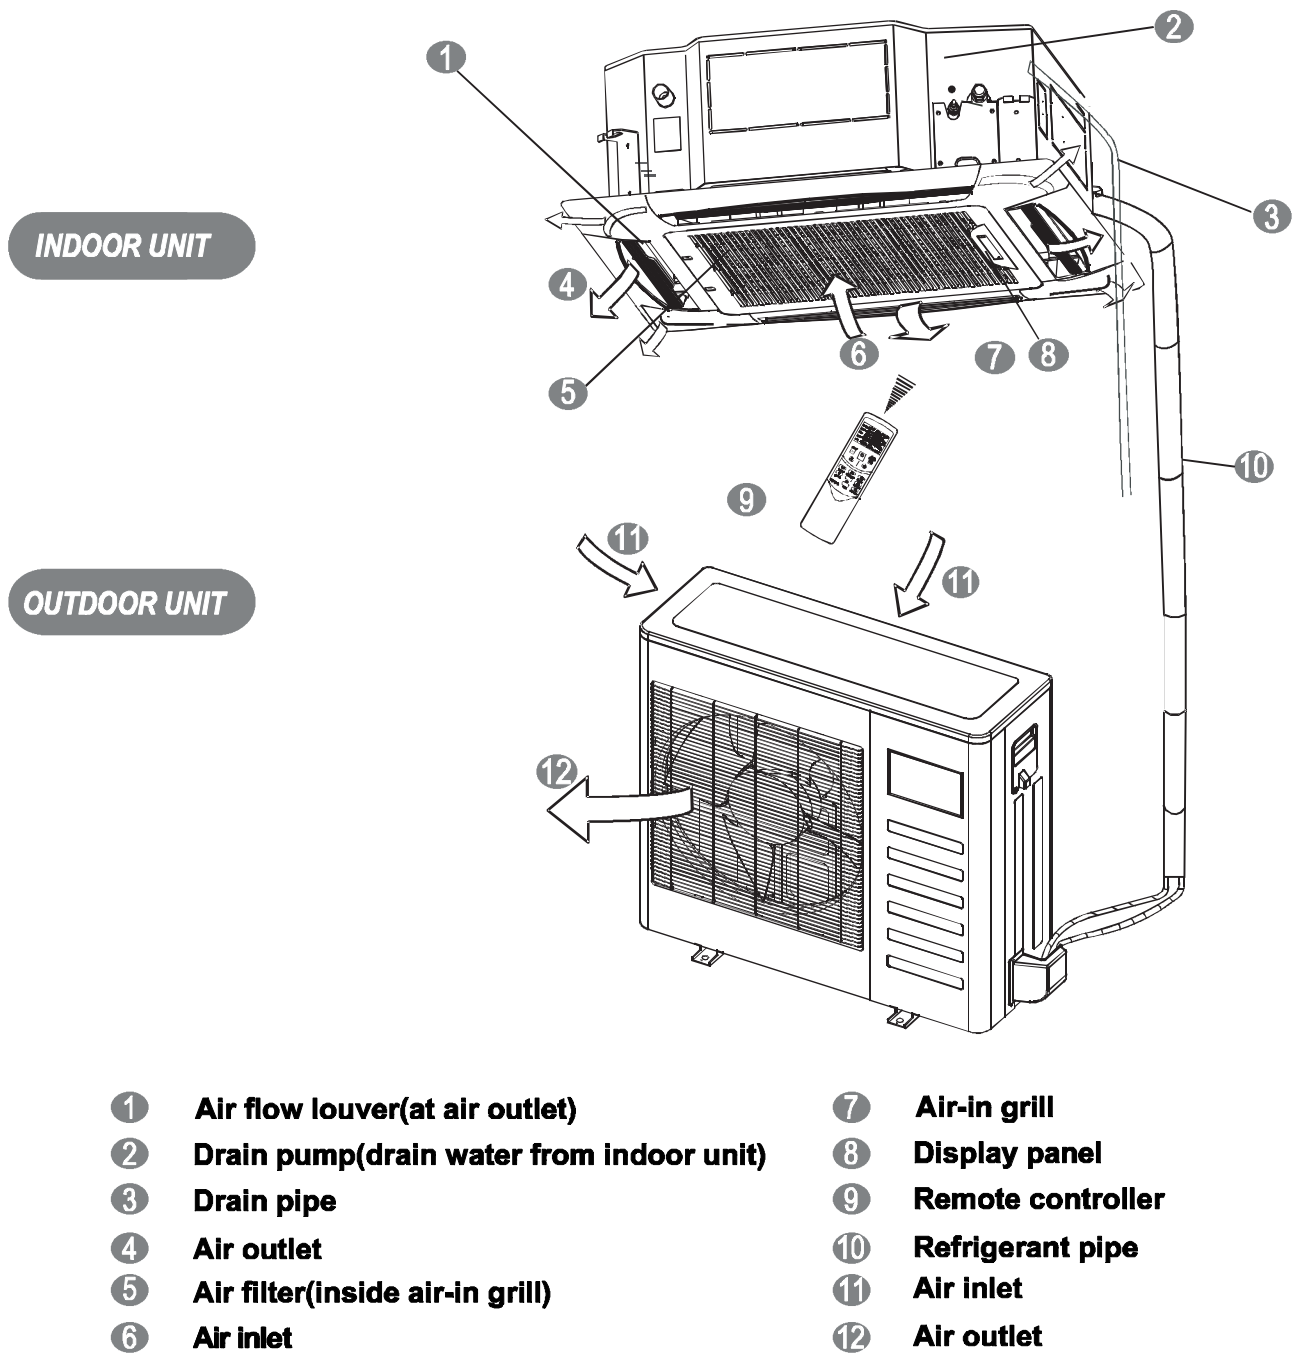

Fig. 1 – Parts List
- Fig.1 is only a sketch. Different models may be slightly different.